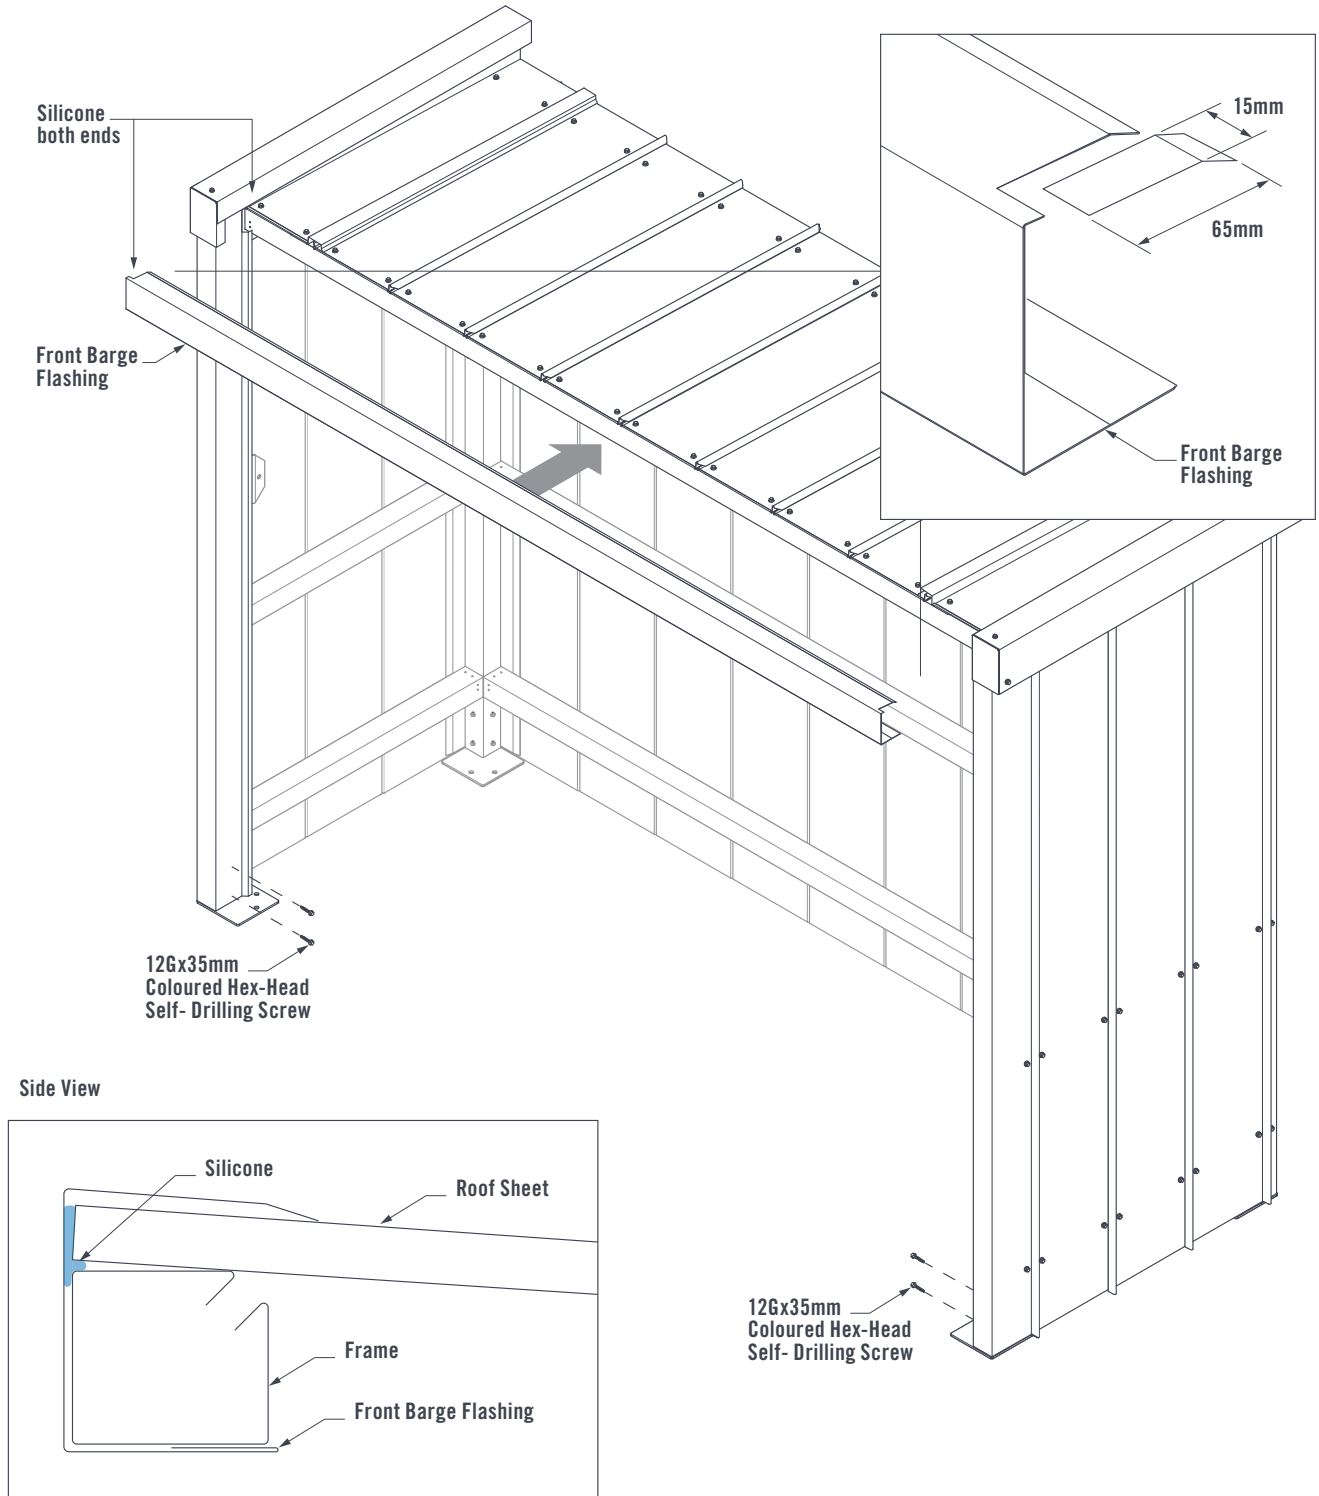

FIGURE 7.1
Trim 65mm x 15mm from both ends of the Front Barge Flashing. To prevent water ingress in extreme weather conditions, apply a bead of silicone where the Front Barge Flashing meets the Side Barge Flashings. Fit the Front Barge Flashing over the Frame and Roof Sheets (Figure 7.1).
**Ground Fixing Option 1 only (Footings):** Fasten the Front Sheets to the Footings using two 12Gx35mm Coloured Hex-Head Self-Drilling Screws (Figure 7.1).